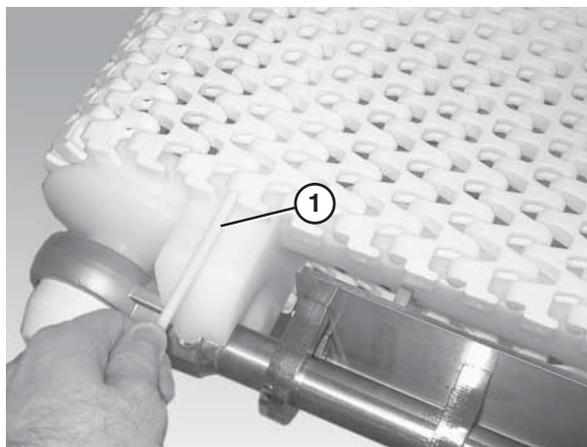

Figure 32
5. Insert the belt rod (**Figure 32, item 1**).